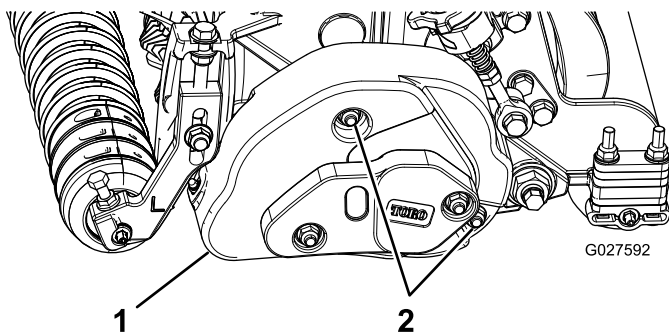

Figure 2
1. Remove the 2 flange nuts securing the groomer cover and remove the cover (Figure 2).